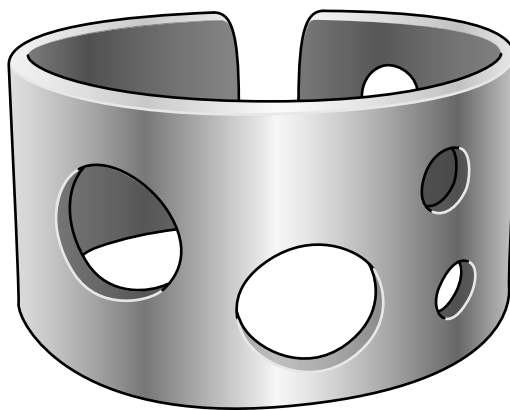
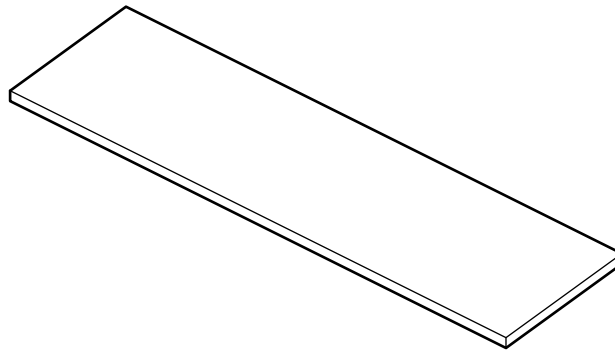

Fig. 2
Fig. 3
17 Fig. 2 shows a metal bracelet.
- (c) Fig. 3 shows the flat strip of metal from which the bracelet shown in Fig. 2 is to be made.